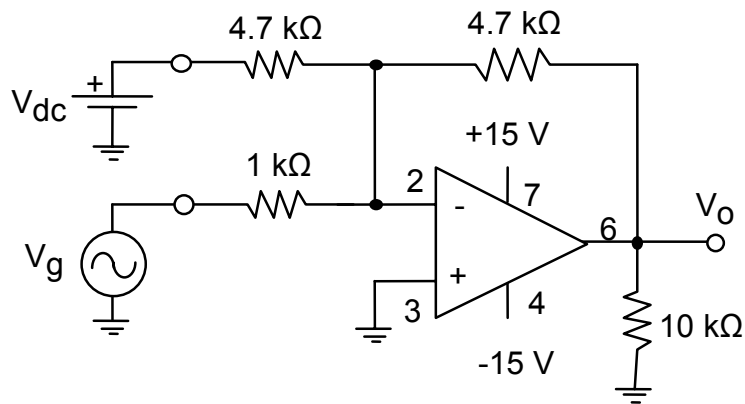

Fig 4: Op-amp summing circuit
- (1) With the power off, modify your inverting amplifier circuit as shown in figure 4. Use the +18V output of the power supply for  $V_{dc}$ . Turn the +18V output all the way down, so that you can adjust up from zero. This circuit behaves like an inverting amplifier with two inputs. What is the ideal relationship between the output voltage and the inputs  $V_g$  and  $V_{dc}$ ?
- (2) Apply a 1 Volt amplitude sinewave for  $V_g$  and 2 Volt DC source for  $V_{dc}$ . Observe and record the input/output waveforms on the oscilloscope screen. Pay close attention to the ground signal level of the output channel on the oscilloscope screen (note: make sure both channels are set for DC coupling). When used in this way, such a circuit could be called a *level shifter*.
- (3) Pull out the DC offset knob of the function generator and adjust the DC offset until  $V_o$  has zero DC component. Confirm this either by measuring  $V_o$  with a DC voltmeter, or by verifying on the oscilloscope that  $V_o$  swings equally above and below ground. What must the DC offset of the function generator be? Can you confirm this with a measurement?
- (4) Push the DC offset knob back in to reset the offset to zero. With channel 2 of the scope (the channel connected to the op-amp output) set for 5V/div, turn up  $V_{dc}$  slowly to +18V. What happens to  $V_o$ ? Record the DC voltage of the output.
- (5) Return  $V_{dc}$  to approximately +2V. Set the scope to 1V/div, AC coupled, and adjusted so you can see the complete  $V_o$  waveform. Turn  $V_{dc}$  back up to 18V. What does the oscilloscope trace for  $V_o$  look like? Does the amplifier appear to be amplifying? Now raise your right hand and say the following out loud: